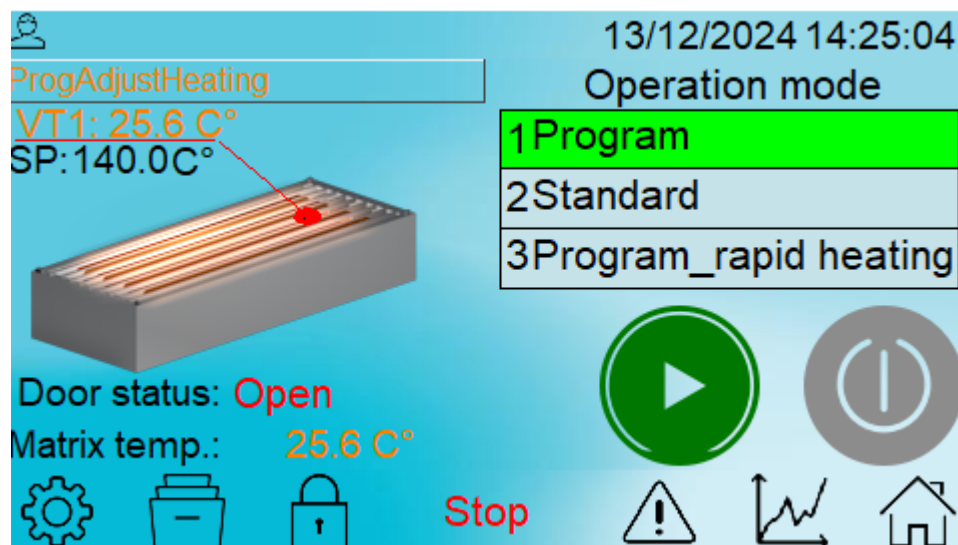

Figure 5 – Operating screen
3.3.1 Turn on the OVEN-700-2000 by turning the toggle switch handle to the right to the "1" pointer. The operating screen on the controller is turned on (shown in Fig. 5).